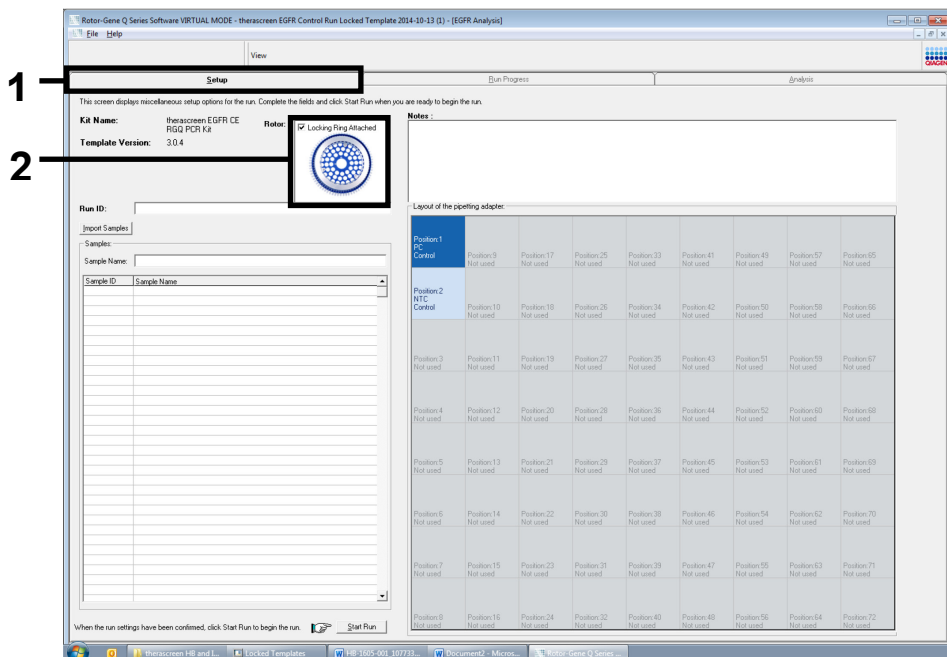

Figure 2. The “Setup” tab (1) and “Locking Ring Attached” box (2).
13. The “Setup” tab opens as the default (Figure 2). Ensure that the locking ring is properly attached then check the “Locking Ring Attached” box. Close the lid of the Rotor-Gene Q MDx instrument.